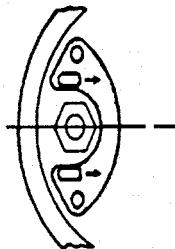

Figure 5
- F. Mount the guide pin assembly with the two screws provided. The guide pin must always point away from the adjoining gasket surface (See Figure 5 & 6).